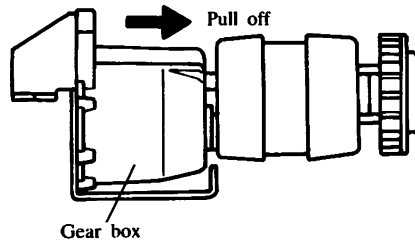

Fig. 15
- (3) Set the speed change knob on H and then remove the gear box as shown in Fig. 15.